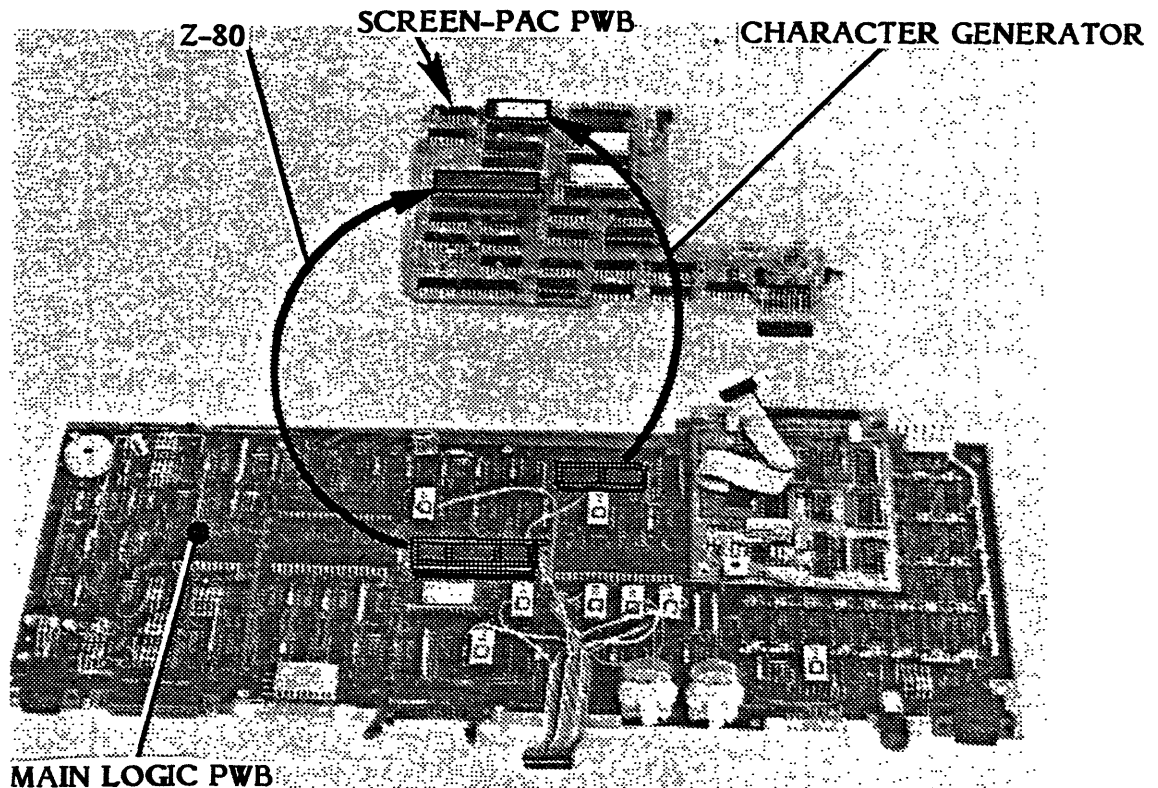

FIGURE 2
15.0 Locate the 40-pin socket near the center of the PWB, and the 24-pin socket near the edge of the PWB (Refer to Figure 2).